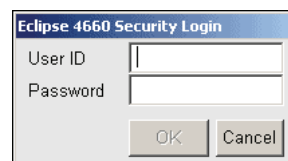

Figure 3.5. Eclipse 4660 Security Login dialog box
4. Double-tap **4660 Security**. The Eclipse 4660 Security Login dialog box appears (Figure 3.5).